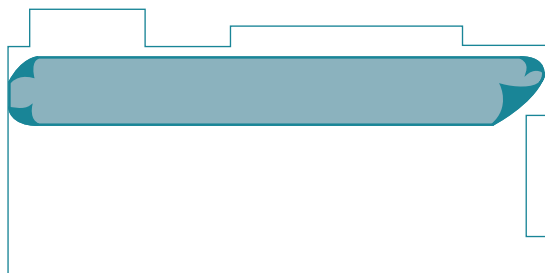

Figure 3.1 Lining up the First Sheet
- ▶ Adjust the lie of the sheet so that the inner edge is parallel with the axis of the room (Figure 3.1).